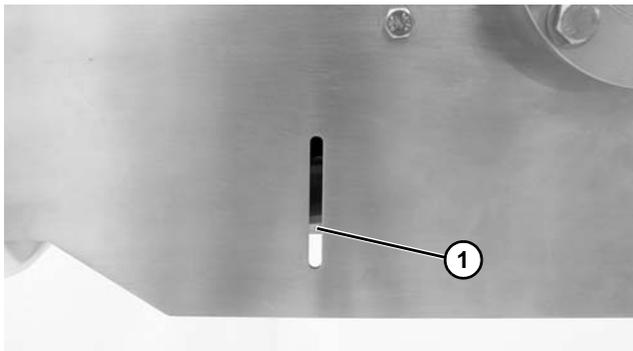

Figure 28
Before inserting belt rod to connect belt ends, be certain that the slack on belt is showing in slotted area (**Figure 28, item 1**) on convey or drive end.